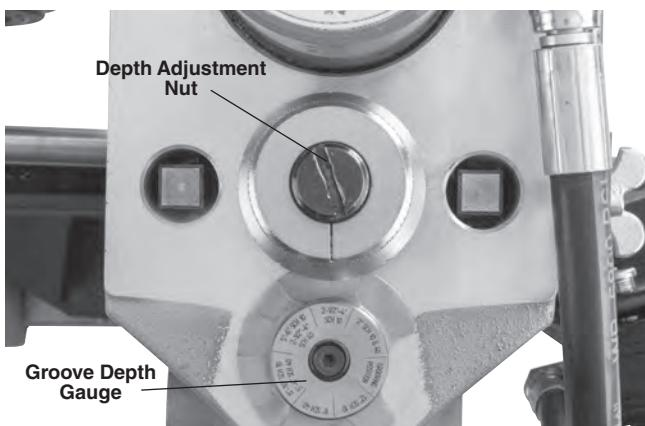

Figure 17A – Place Correct Step of Gauge Under Adjusting Head
3. Adjust the groove depth gauge so that the correct step of the gauge is under the head of the adjusting screw (*Figure 17A*). The groove depth gauge is designed for use with pipe. See “*Setting The Groove Diameter For Copper Tubing*” for use with copper tube.